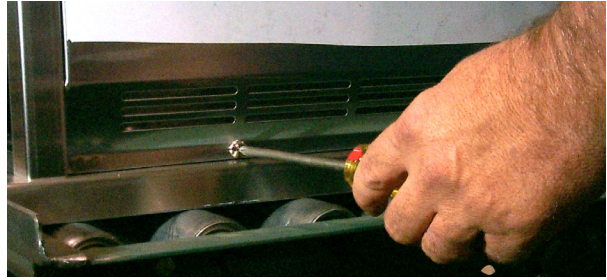

Figure 1: Removing side panel
- Remove two screws on bottom of side panel. **See Figure 1.**